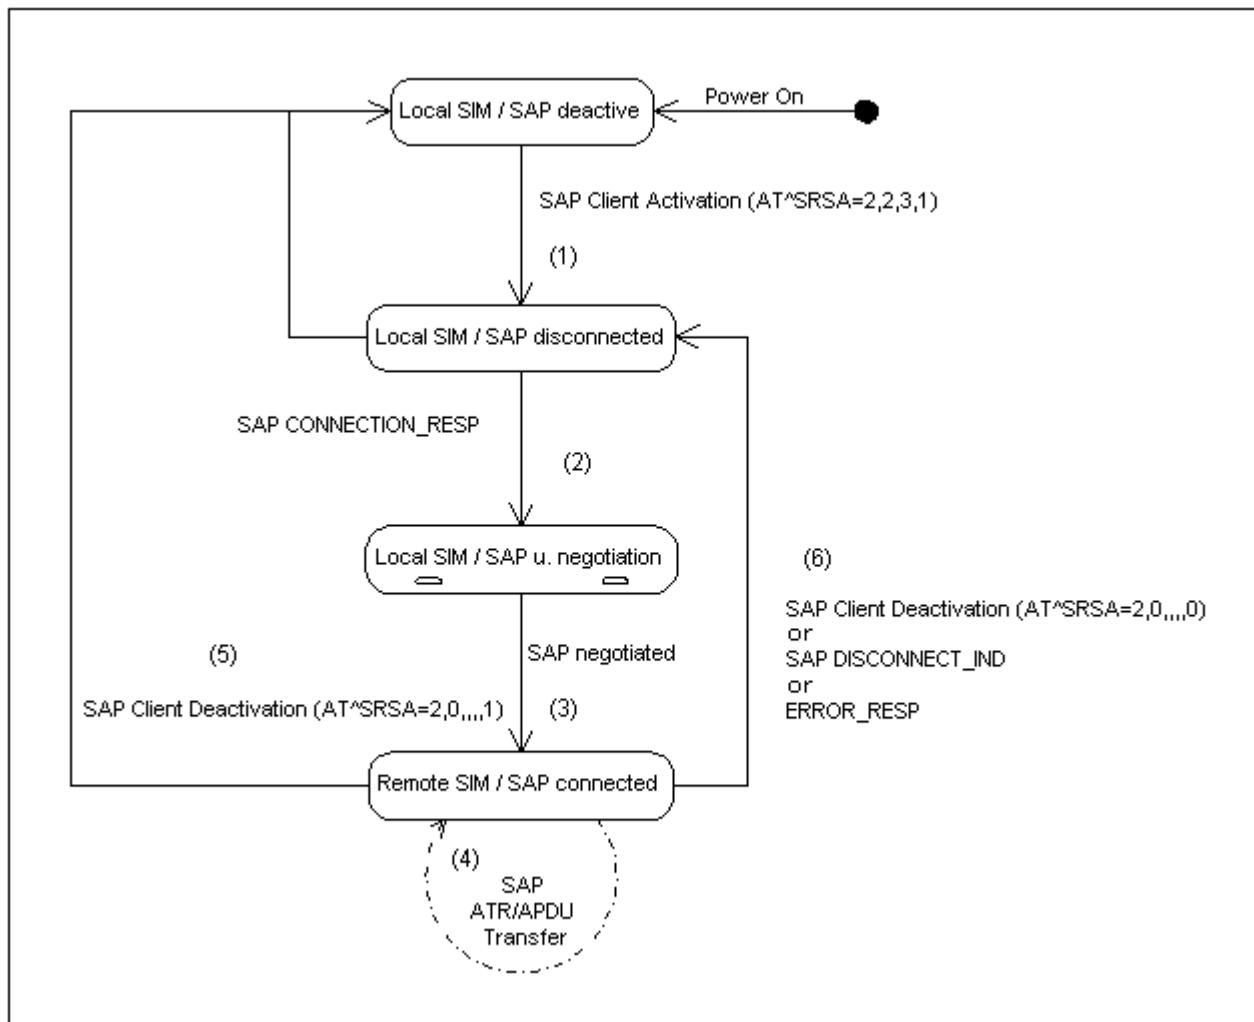

Figure 15.4: SIM usage states of SAP client
After SAP server activation (see (1) in Figure 15.4, SIM usage states of SAP client) the ME waits for the SAP message CONNECTION_REQ. The server will use its local SIM until the parameter negotiation has been accomplished successfully.